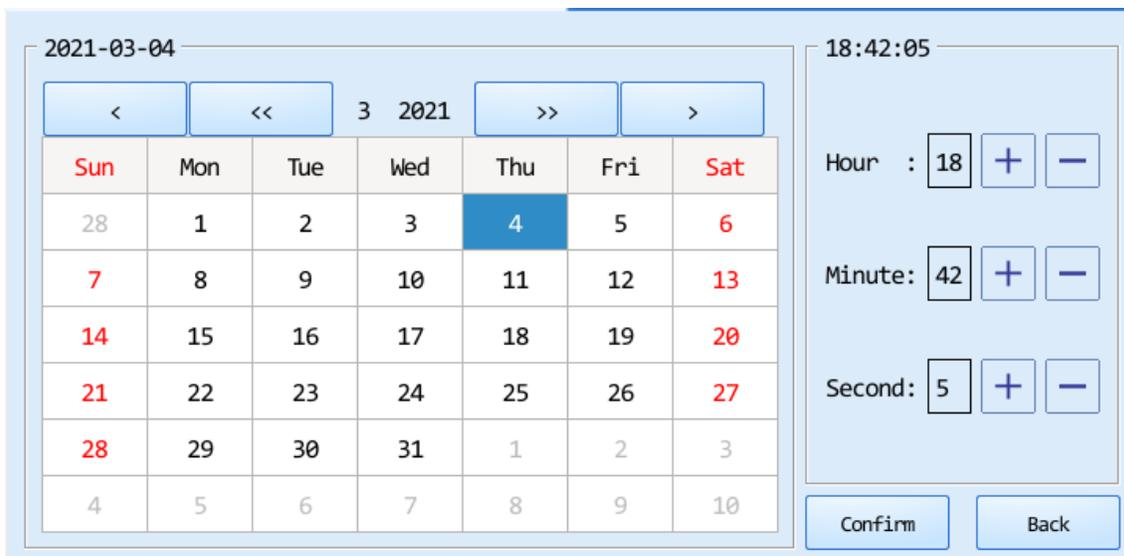

Figure 3.5a Instrument Setting Sub-tab -- Date/Time Setting
- ▶ **Date and Time:** users can press < **Set** > to set the date and time displayed on the current GeneRotex Extractor, the date/time setting window will pop up as shown in Figure 3.5a.